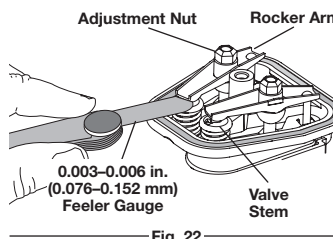

Fig. 22
6. Slide the feeler gauge between the rocker arm and the valve return spring. Measure the clearance between the valve stem and rocker arm (Fig. 22). Measure both the intake and exhaust valves.
The recommended clearance for both intake and exhaust is .003 – .006 in. (.076 – 0.152 mm). Use a standard automotive .005 in. (.127 mm) feeler gauge. The feeler gauge should slide between the rocker arm and valve stem with a slight amount of resistance, without binding (Fig. 22.)
- a. Turn the adjusting nut using a 5/16 inch (8 mm) wrench or nut driver (Fig. 22).